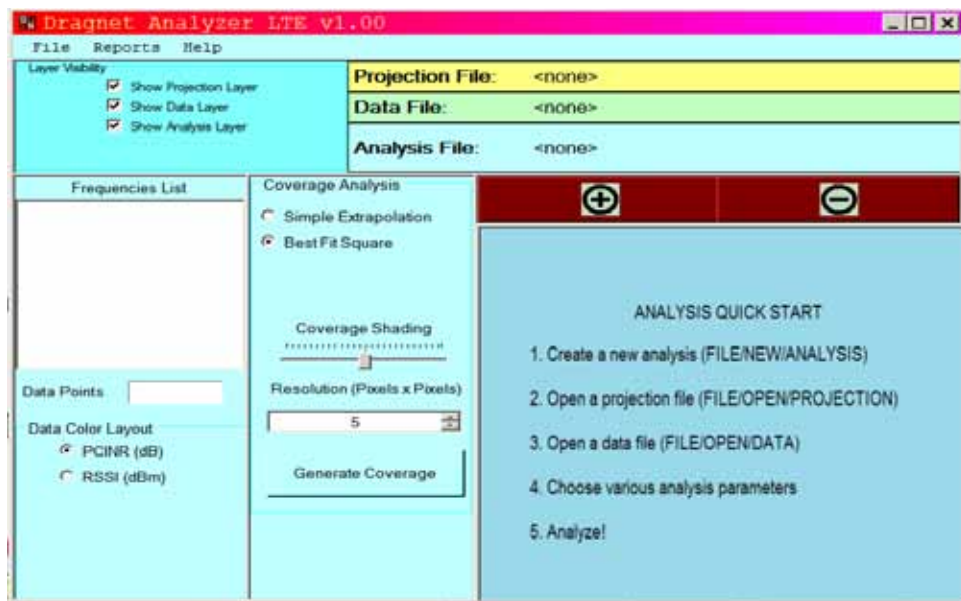
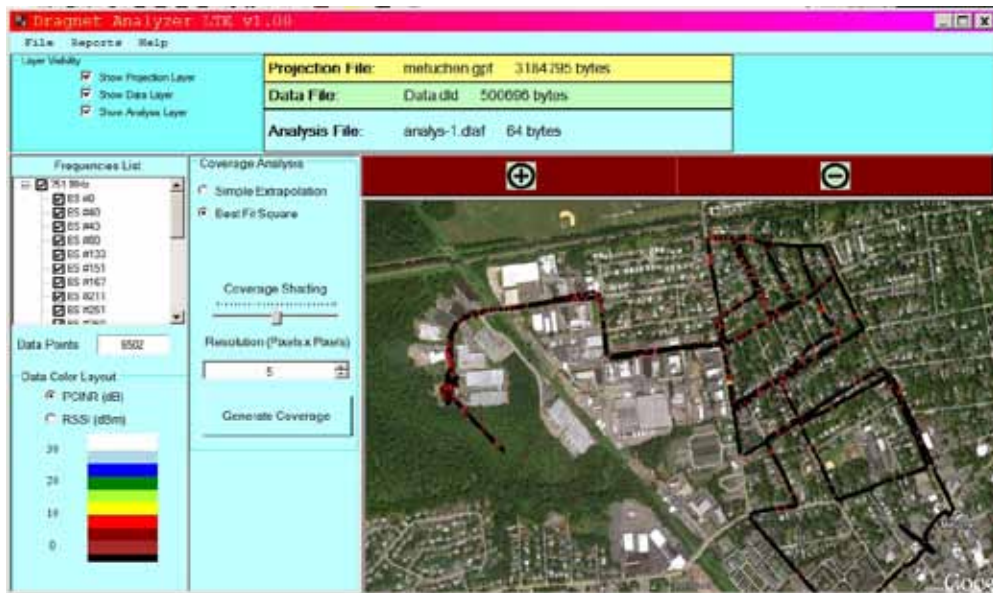

Figure 7. Dragnet Analyzer Started
Figure 8. Dragnet Analyzer Loaded and ready to run
22. Select File, Open, Projection, and select the (*metuchen.gpf*) file generated in Step 8 above. This will load the map file to the screen (see Figure 7)
23. Next, select File, Open, Data and select the (*Data.dld*) data file generated in step 14 above. This will load the particular trajectory used while driving or walking on top of the map as seen in Figure 7 below. The three files for map projection, data and analysis are also listed in the upper center of the screen in Figure 7.
24. To obtain the “coverage” for PCINR(dB) (Signal to Noise Ratio for the channel monitored), click on the “Generate Coverage” button in Figure 7. The output of this analysis appears in Figure 8:
25. The RSSI coverage may similarly be obtained by selecting “RSSI (dBm)” in Figure 7 and